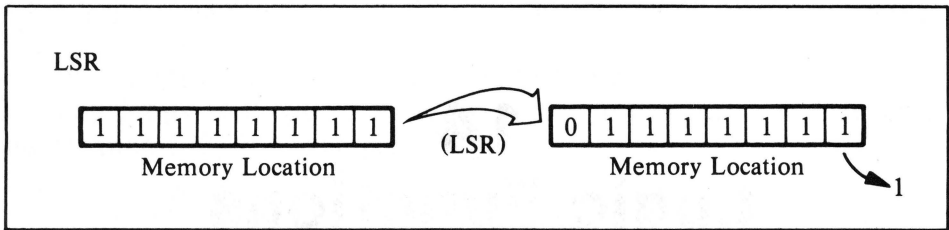

Figure 14-2. Logical shift right
- **LSR** — Logical shift right. Complement to ASL; shifts all bits in a byte (either accumulator or memory) once to the right, thus leaving the low-order bit in the Carry, and a 0 in the high-order bit (see Figure 14-2).